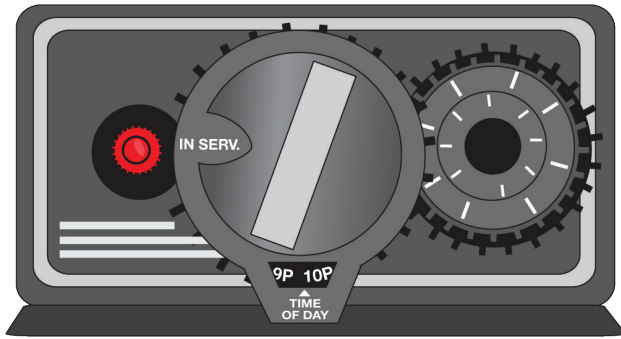

Figure 9 - Filter **IN SERVICE** position
7. After the manual rinse cycle has been completed, turn the main dial on the filter unit to the **IN SERVICE** position [**See Page 15, Figure 9**]. Make sure the control lever is fully in the **IN SERVICE** position. Now, put the ScaleSolver outlet in the **IN SERVICE** position. Water will now be flowing through the whole Elite PowerPac to feed the house. **Remember to set the timer for self-cleaning to the current time of day.**